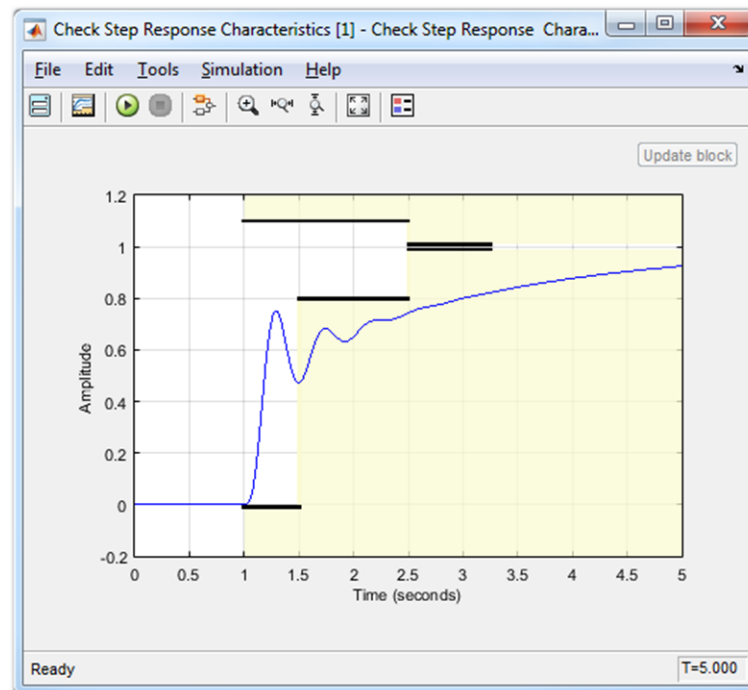

Figure 49 - Examining controller performance versus desired response
1. Open up the block 'Check Step Response Characteristics' and click the play button. This will run the simulation again, and examine the plot of the feedback output (Figure 49).